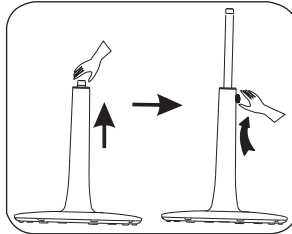

Figure 2
3. Adjust the lift pole to a desired length, and then lock it with the locking nut for lifting. (See Figure 2)